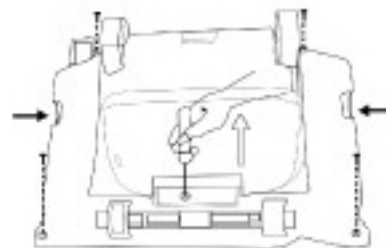

Fig. 17
3. With a Phillips #2 screw driver remove the five screws on the bottom plate. (Fig. 17)